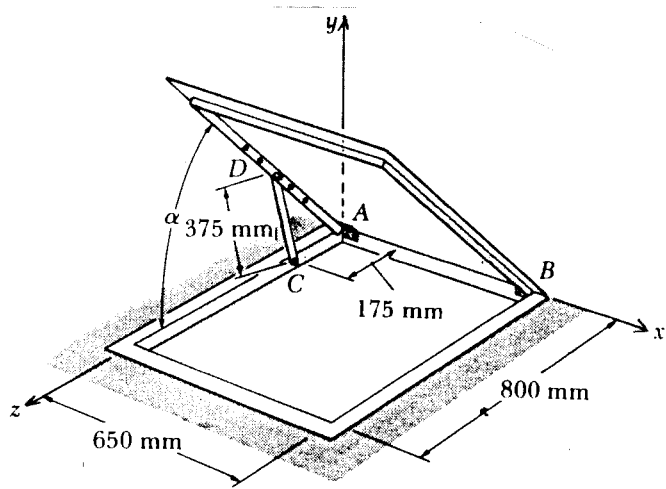

Fig. P3
- 3) The lid of a roof scuttle shown in Fig. P3 has a mass of 30 kg. It is hinged at corners A and B and maintained in the desired position by a rod CD pivoted at C; a pin at end D of the rod fits into one of several holes drilled in the edge of the lid. For $\alpha = 30^\circ$, determine